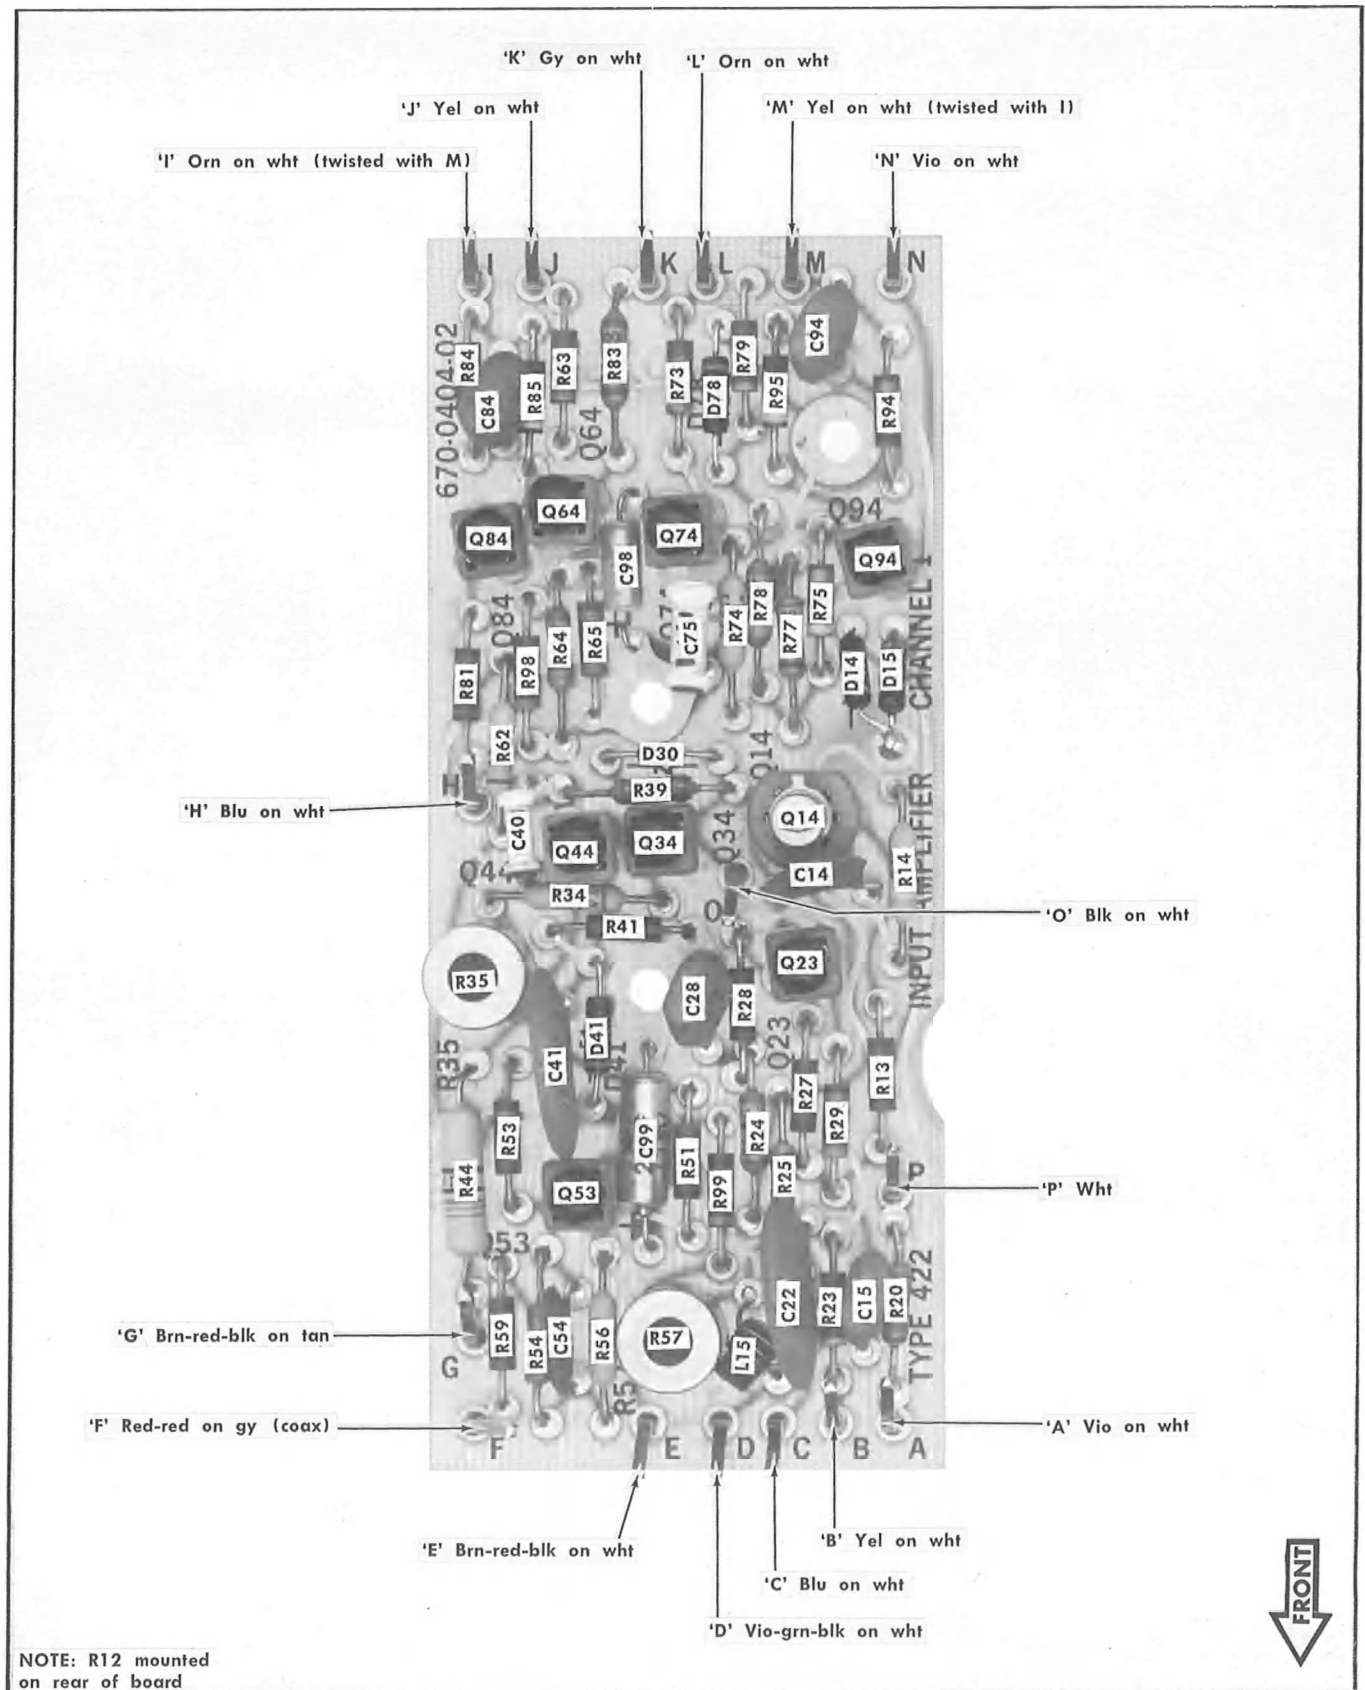

Fig. 4-8. Channel 1 Input Amplifier circuit board.
4. To replace the board, reverse the order of removal. Correct location of the pin connectors is shown in Figs. 4-8 through 4-17. Replace the pin connectors carefully so they mate correctly with the pins. If forced into place incorrectly positioned the pin connectors may be damaged.